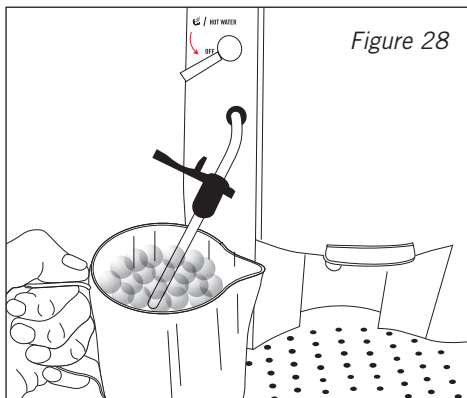

Figure 28
- To stop the frothing process, turn the 'steam/hot water' switch down into the off ● position and then remove the jug. See figure 28.